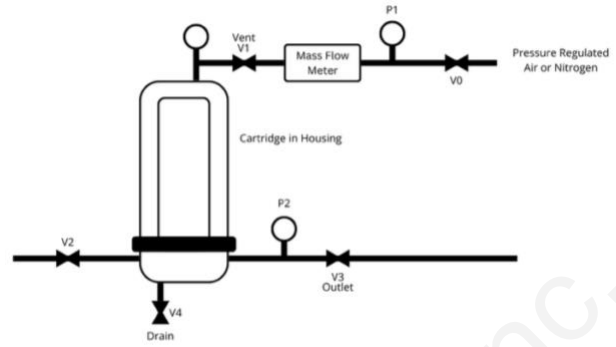

Figure 1c: Cartridge Water Intrusion Test Using a Mass Flow Meter
1. Attach regulate air or nitrogen and mass flow meter to the vent line (Figure 1c).